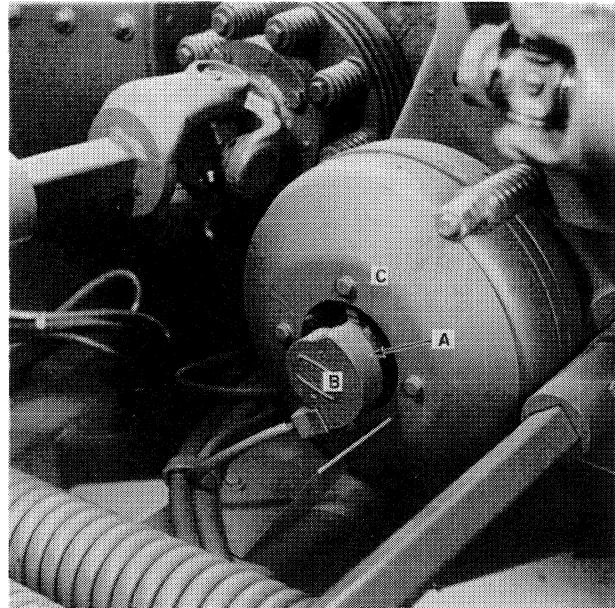
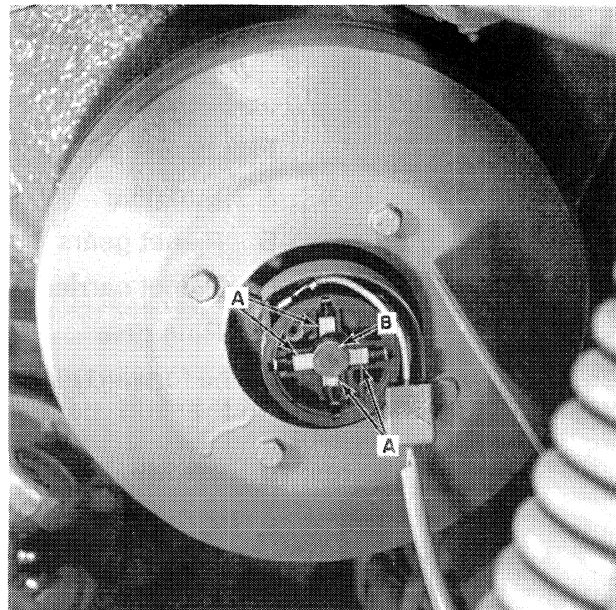
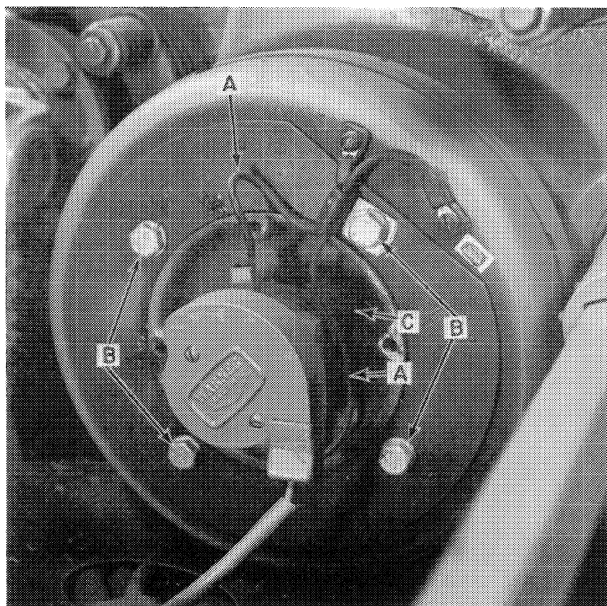

FIGURE 2-5
FIGURE 2-6
FIGURE 2-7
BRUSH BOX -- To replace the brushes, remove cover, A, Figure 2-5. Pull out the four brushes, A, Figure 2-6, and install the new brushes.
Inspect the two slip rings, B, Figure 2-6, for arcing or wear. Replace the complete brush box, A, Figure 2-5, if there is any wear.
To replace the brush box, unhook the two wires at the terminal block. Remove shield, C, Figure 2-5. Unplug the two wires, A, Figure 2-7, and then unscrew the brush box from the shaft.
2. Remove shield, C, Figure 2-5.
3. Disconnect the wires, A, Figure 2-7, from the brush box.
4. Remove the four magnet mounting bolts, B, Figure 2-7, and remove the magnet assembly from hub, C.